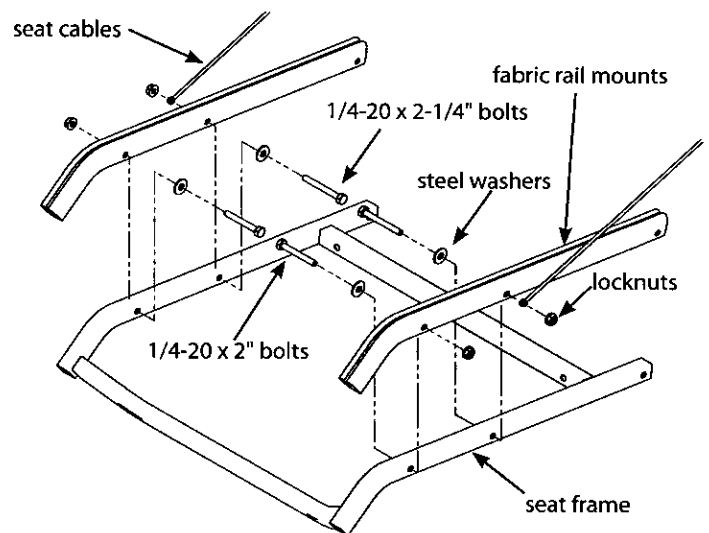

Figure 5
7. Attach -preassembled mesh seat with fabric rail mounts (360020) and (2) seat cables (48218) to the outside of the welded seat frame (410071) using (2) provided 1/4-20 x 2" bolts, (2) 1/4-20 x 2-1/4" bolts, (4) locknuts and (4) steel washers. **SEE FIGURE 5 AND 6. MESH FABRIC IS NOT SHOWN TO ILLUSTRATE NECESSARY HARDWARE.**